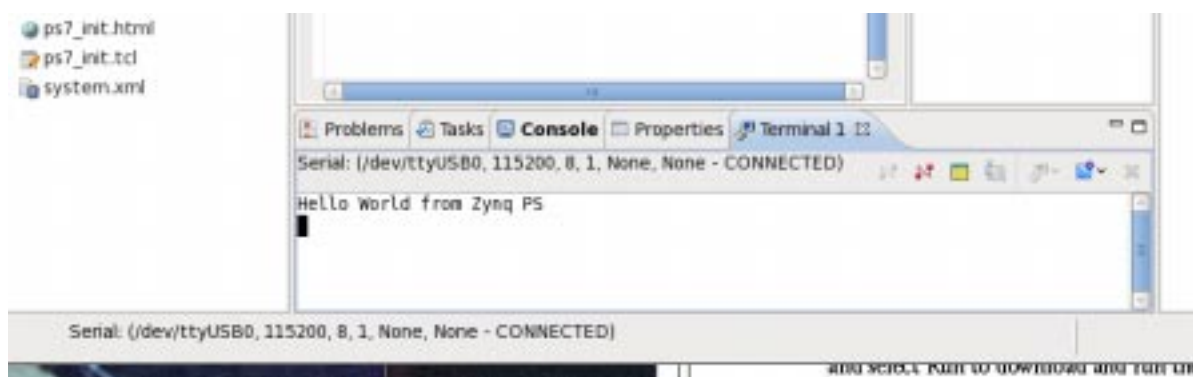

Figure 19. Terminal window with program output.
7.8 The Run Configurations window will appear as shown in Figure 18. Leave the default settings and select **Run** to download and run the program. A scroll bar showing the progress of the download will be shown in the bottom right hand portion of the SDK window. Once the program has been downloaded to the board, return to the SDK terminal window to see the output generated, as shown in Figure 19.